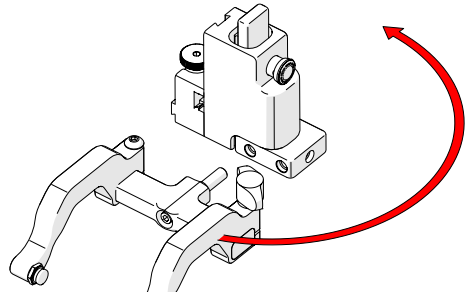

Fig. 44 - Orient to opposite side
2. Position the yoke and arms to the opposite side of the probe holder (Fig. 44).